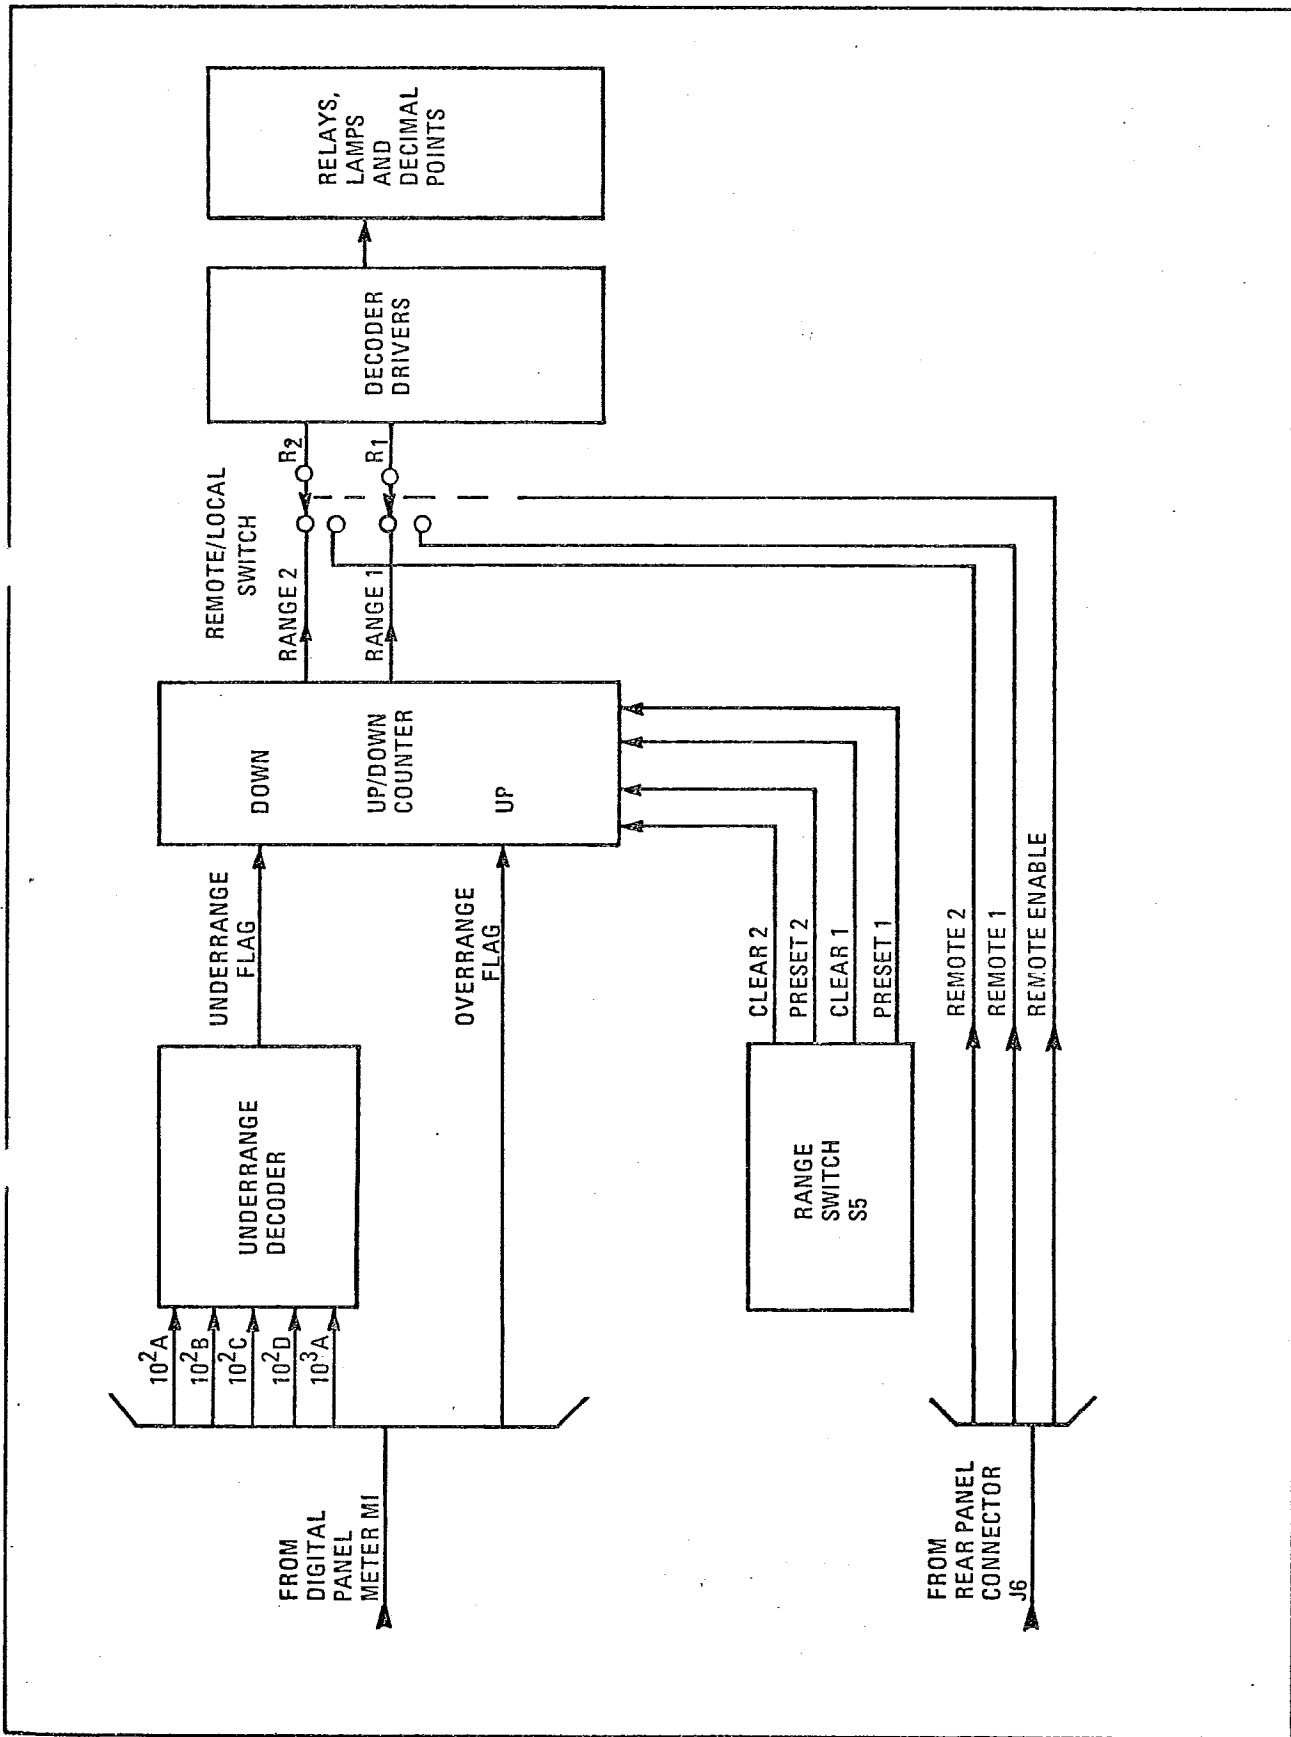

Figure 2. Up/Down Counter Block Diagram
37. Introduction (see Figure 2). Auto Range Assembly A6 comprises the logic circuitry and relays that set the power meter to its four basic ranges. The main control element is the up/down counter. The counter generates a range code that